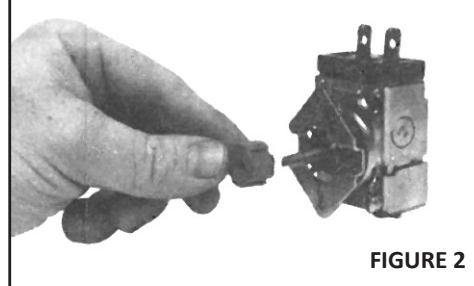

FIGURE 2
2. Locate the 4-way insert included with this dial kit. See Fig. 1. One side has "RCC UNI-LINE" molded in the plastic. Push the 4-way insert flush onto the tip of the dial shaft of the control with "RCC UNI-LINE" facing away from the control. See Fig. 2.